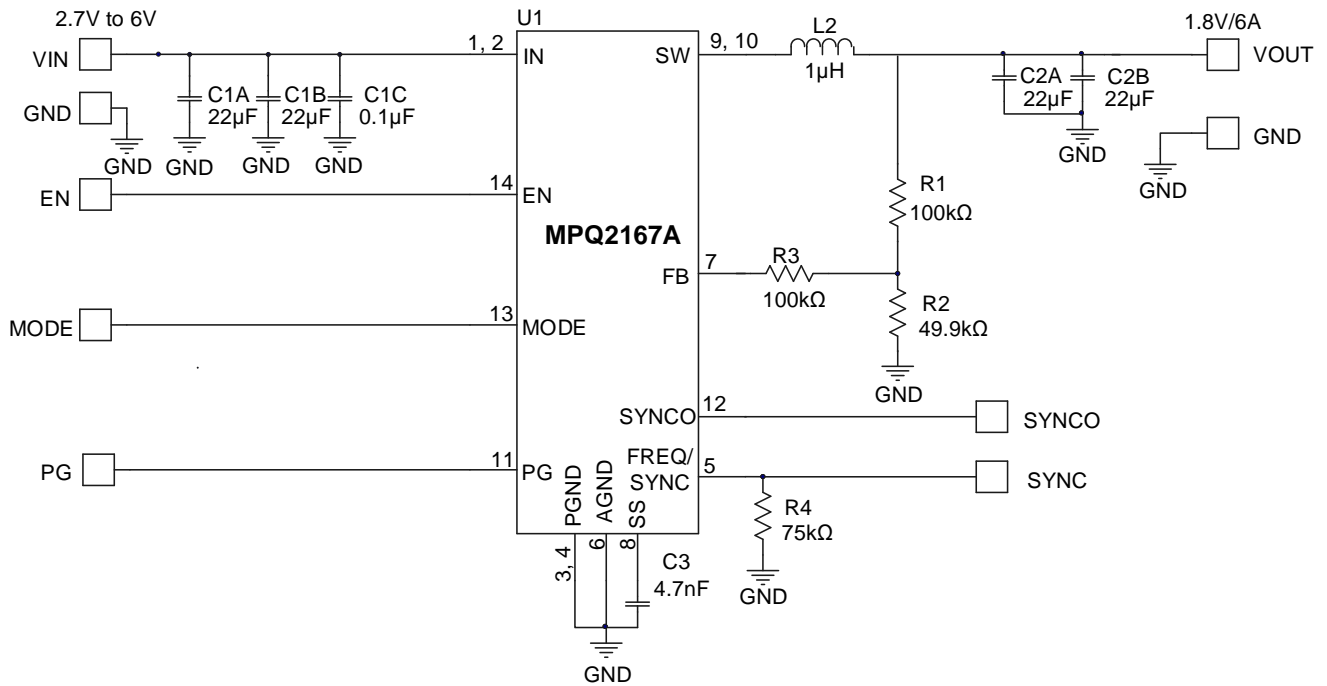

Figure 5: V_{OUT} = 1.8V, I_{OUT} = 6A Application Circuit
- 7) The recommended PCB layout is based on the circuit in Figure 5.